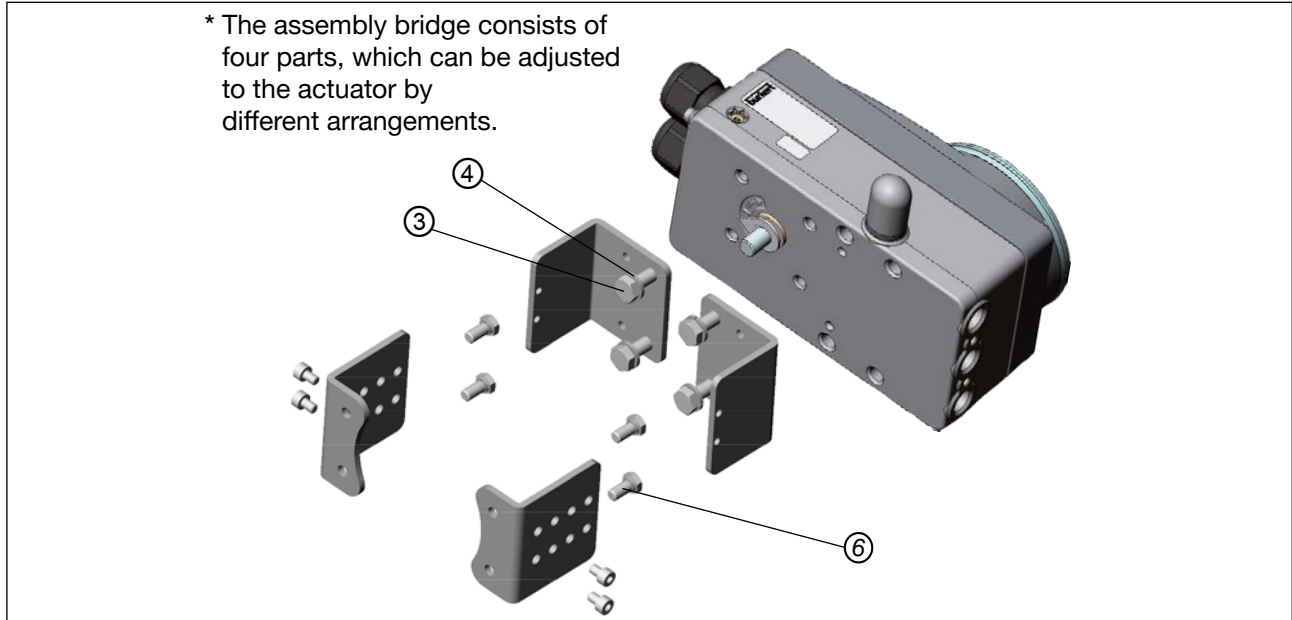

Figure 19: Attaching the assembly bridge (schematic representation)
→ Attach the assembly bridge by 4 hexagon bolt ③ and circlips ④ to Type 8792/8793 (see “Figure 19”).